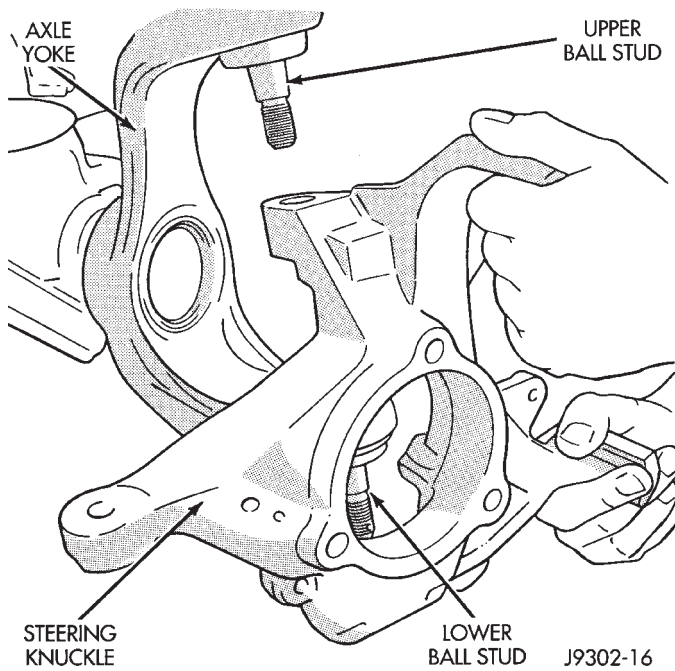

Fig. 21 Steering Knuckle Removal/Installation
- (1) Remove hub bearing and axle shaft. Refer to the Removal procedures in this Group.
- (2) If necessary, disconnect the tie-rod or drag link end from the steering knuckle arm. Remove the ABS sensor wire and bracket from knuckle.
- (3) Remove the cotter pin from the upper ball stud nut. Remove the upper and lower ball stud nuts.
- (4) Strike the steering knuckle with a brass hammer to loosen. Remove knuckle from axle tube yokes (Fig. 21).